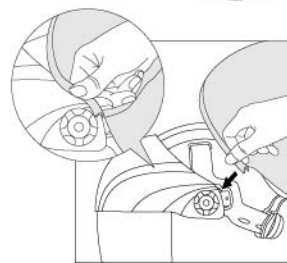

fig.18a
Step 1 : Insert the U-shaped sealing layering into the edge of face shield shell. Use the thumb to press the edge of sealing layering to make it fix into the face shield shell (See fig.18a).